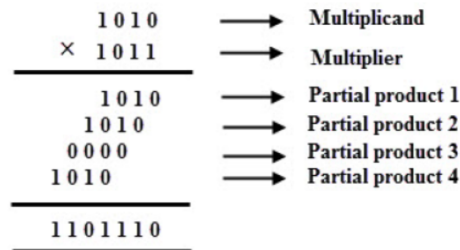

Figure 1: Binary Multiplication
1. Create a new module called **MULTS**. This module should have 8-bit inputs **A** as a multiplicand, **X** as a multiplier and 16-bit output **result**. You will use a simple binary multiplication algorithm as shown in **Figure 1**. First, you need to calculate the partial products and then perform summation of these partial products to obtain the final **result**.
1. Create a new module called **MULTS_signed**. This module should have 8-bit inputs **A** as a multiplicand, **X** as a multiplier and 16-bit output **result**. You will use the same binary multiplication algorithm as shown in **Figure 1**.